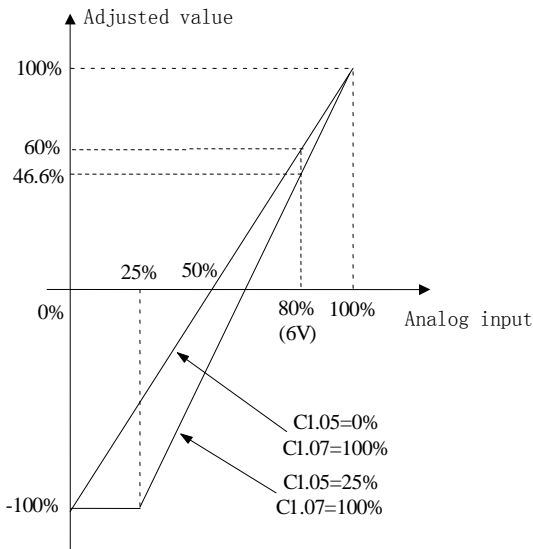

Fig.6-42 Regulation curve of reference
The regulation relationship between C1.05,C1.07 and reference is shown in Fig.6-42.When the analog input 6V,if C1.05=0% and C1.07=100% , then adjusted value is 60%.If C1.05=25% and C1.07=100% , then the adjusted value is 46.6%.
1. Fig.6-42,0%~100% in X axis is corresponding to analog input -10V~10V,10V of analog input is